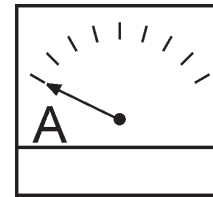

Figure 48. Ammeter (No Load)
- The ammeter (Figure 48) will indicate **zero amps** with no load applied. When a load is applied, the ammeter will indicate the amount of current that the load is drawing from the generator.